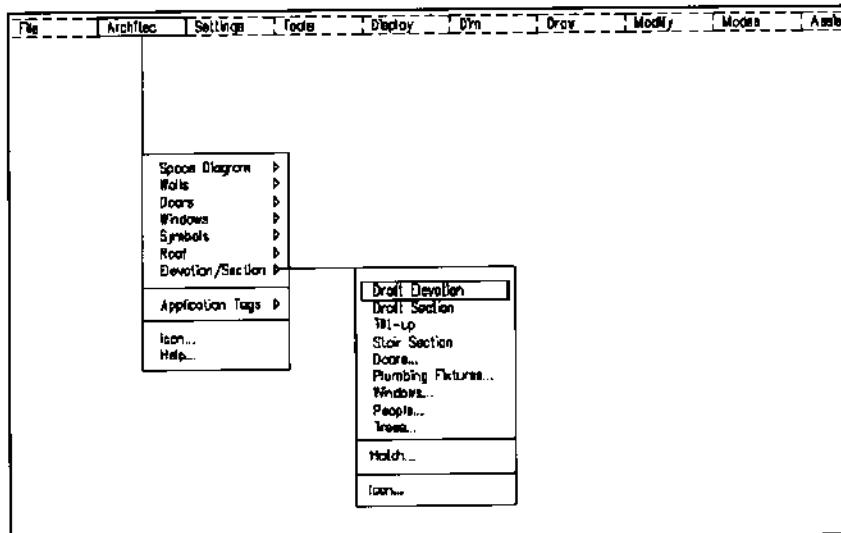

Figure 3.
2. Select Draft Elevation under Elevation/Section from the Architec pull-down menu as shown in Figure 3.